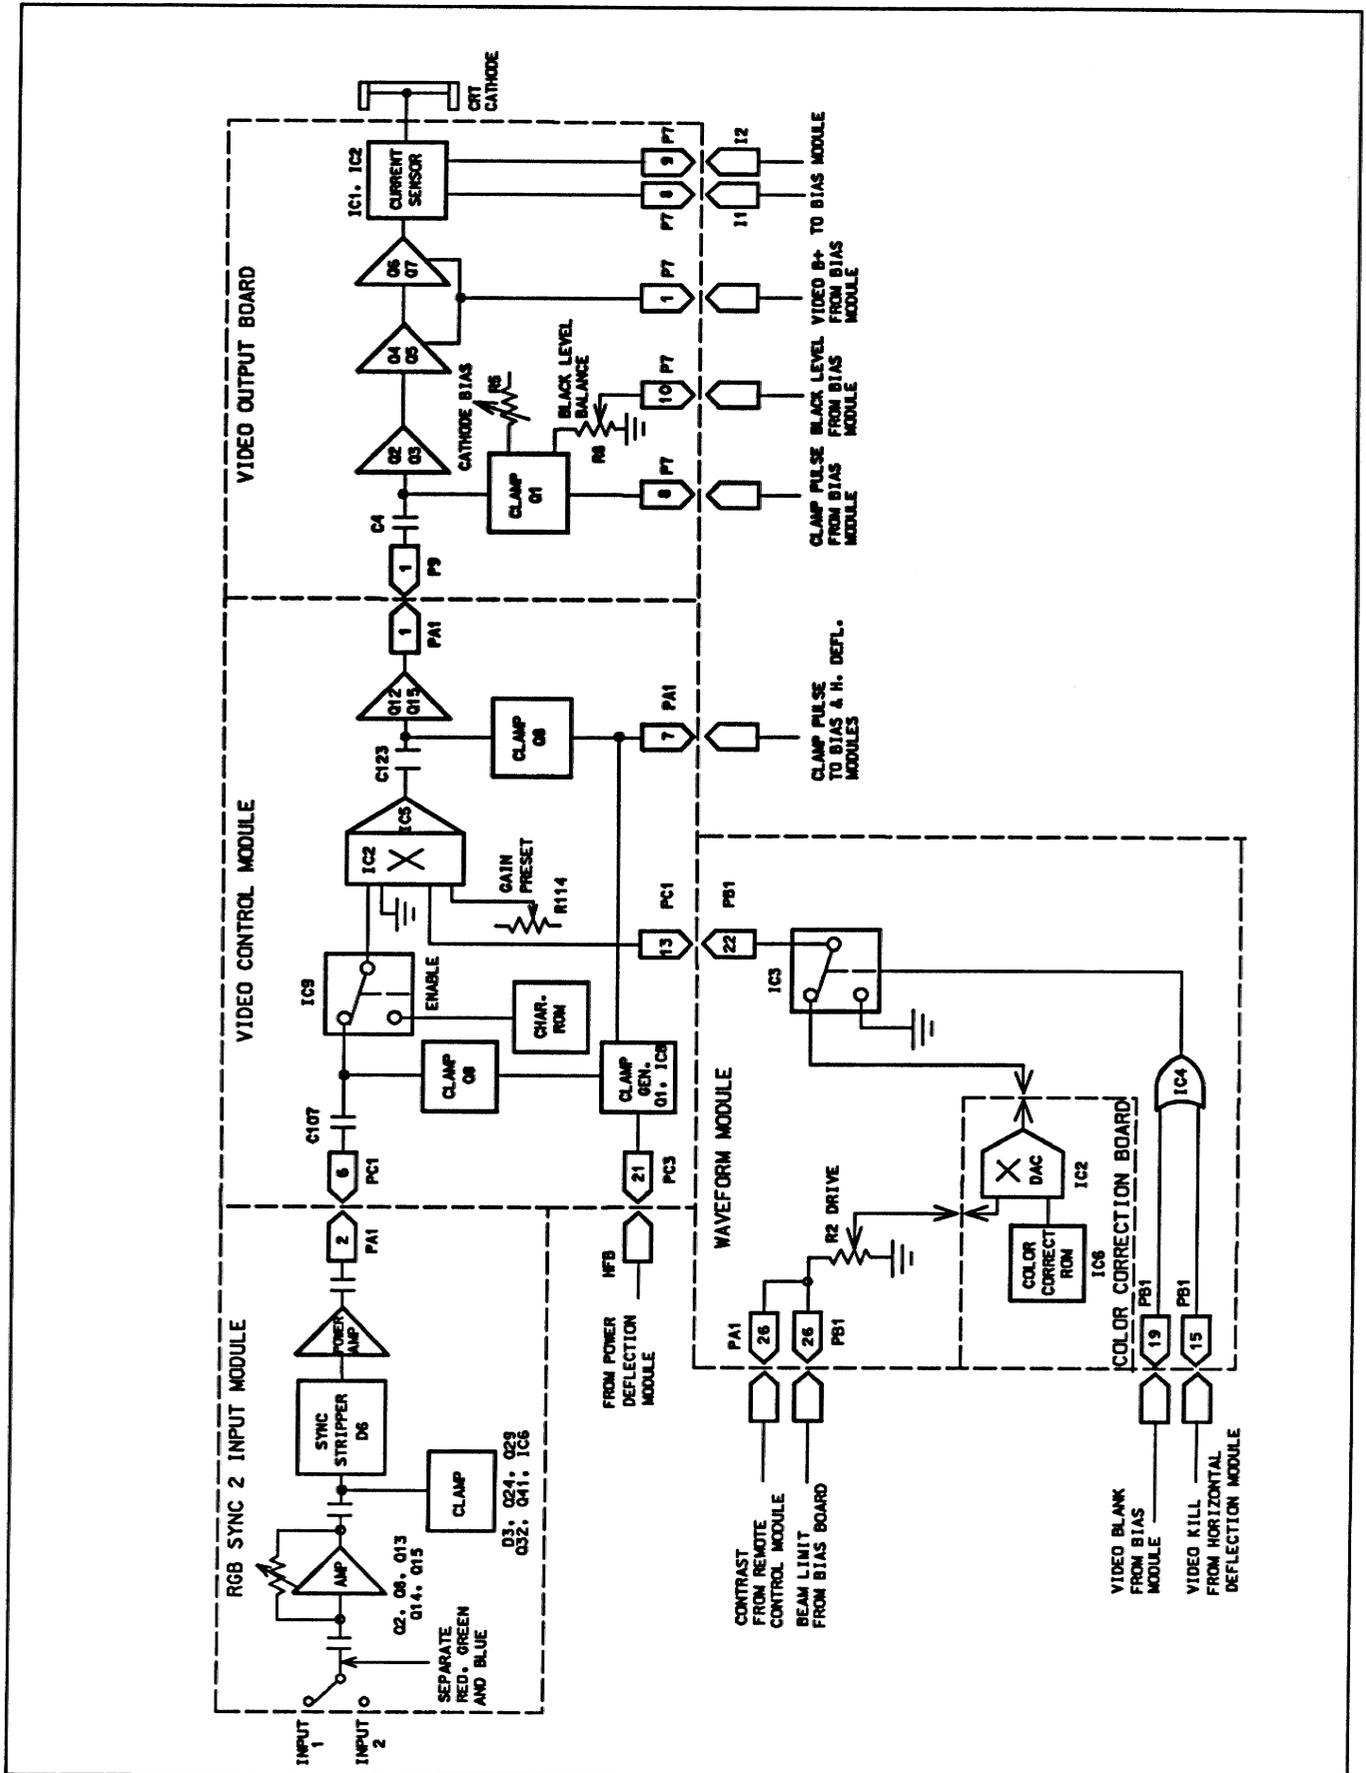

FIGURE 6-6. Video Path Block Diagram
- Ⓞ *Video Path Block Diagram* (Figure 6-6)